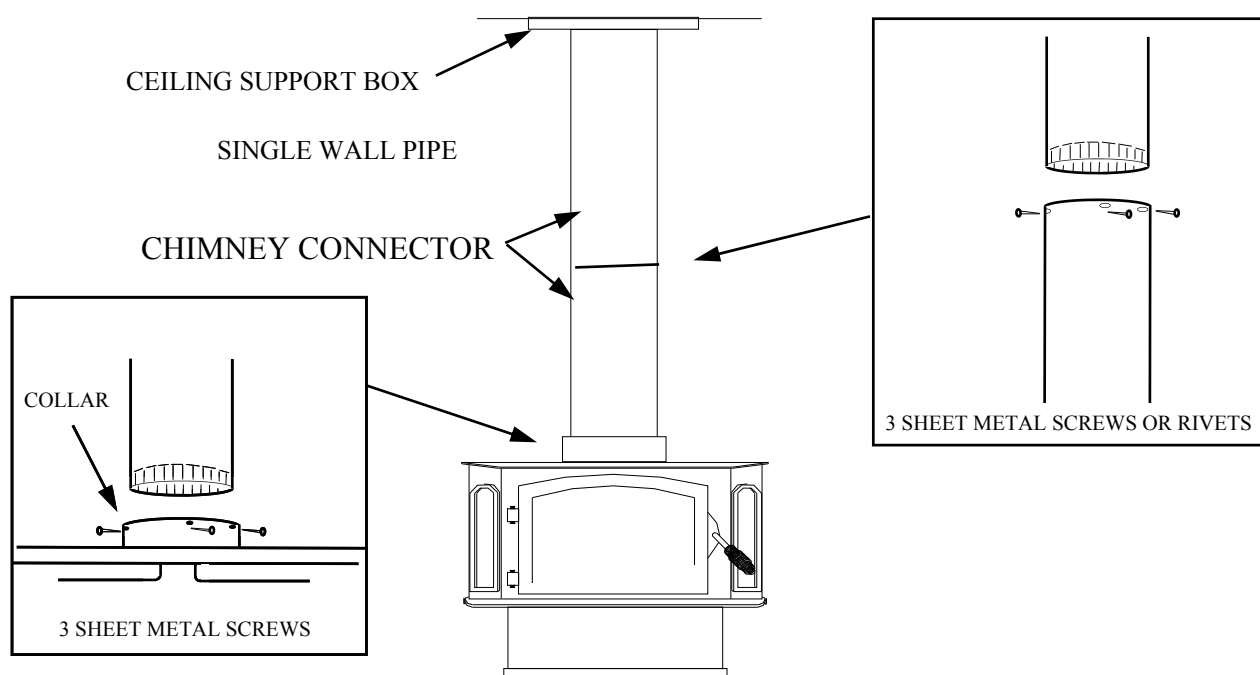

Figure 15
- Using single wall chimney connector, connect heater to chimney by following manufacturer's installation instructions exactly. (See Figure 15).